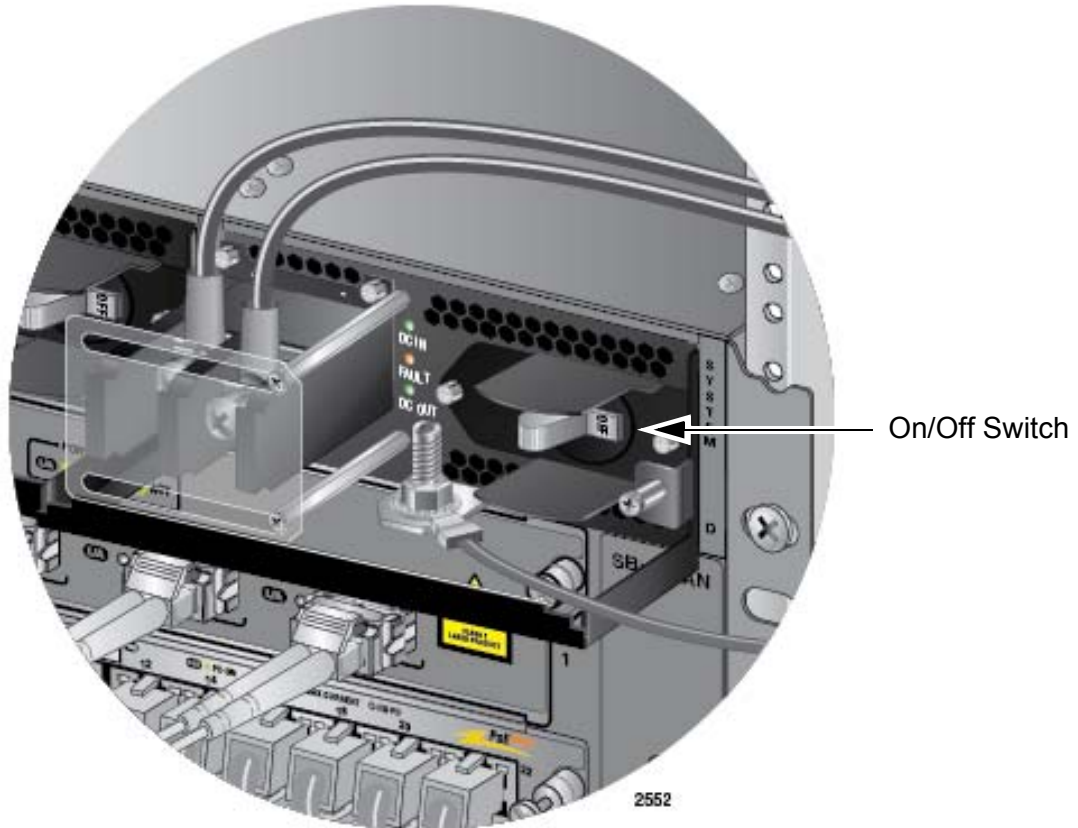

Figure 131. Turning On the Power Supply
11. Turn the On/Off switch on the power supply to the On position. See Figure 131 on page 174.